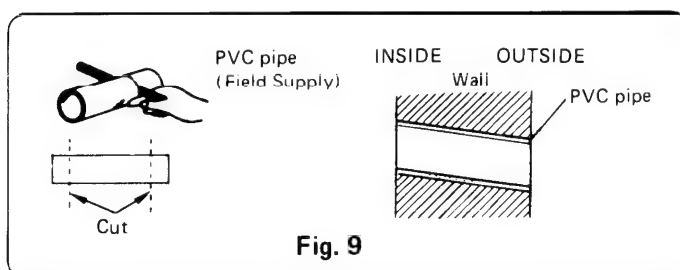

Fig. 9
- d) Measure thickness of wall from inside edge to outside edge and cut PVC pipe at a slight angle. Insert PVC pipe in wall. Fig. 9